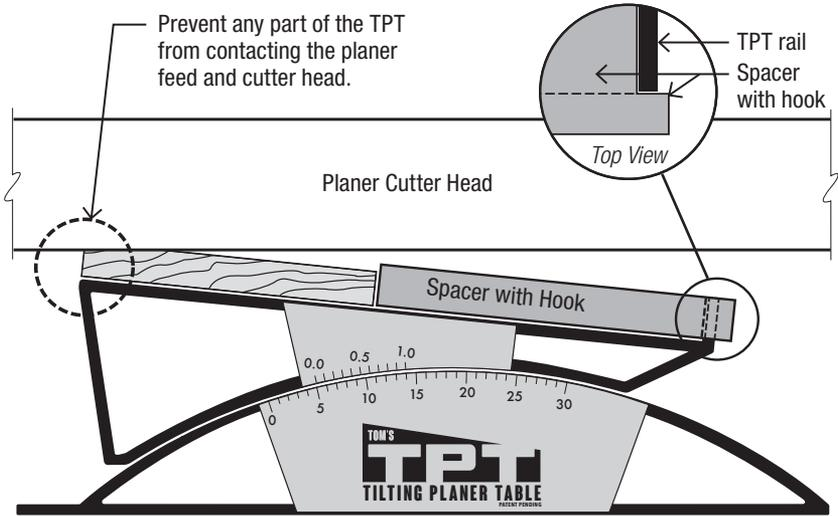

Figure 4
- When work is narrower than the TPT table, cut a spacer that rests against the TPT guide rail for its full length. Be sure to cut the spacers so there is a “hook” at the infeed end. This “hook” will catch against the TPT guide rail and prevent the spacer from being pulled through the planer with your work pieces. (Figure 4)